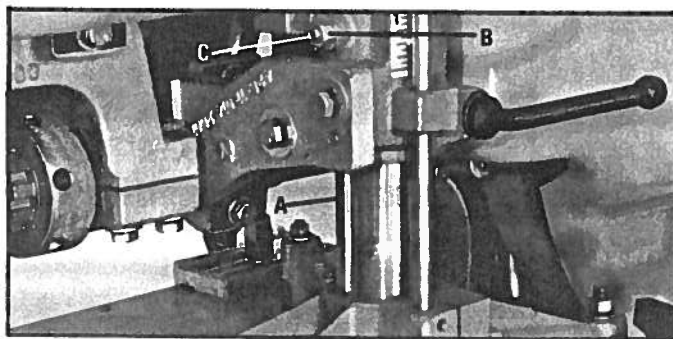

Fig 26
A gib (A) Fig. 26, is located on the column of your saw to prevent the platen from rotating and when adjusted properly the column will move easily up and down.